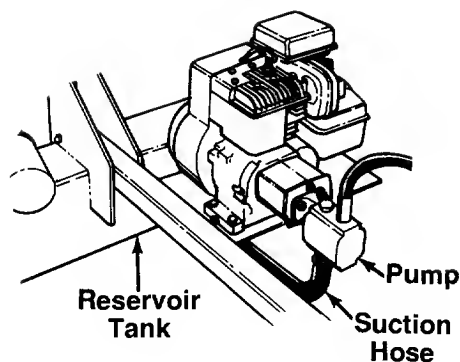

FIGURE 10.
2. Attach the end of the hose to the fitting on the bottom of the pump. See figure 10. Place the hose clamp at the base of the fitting, and tighten securely.